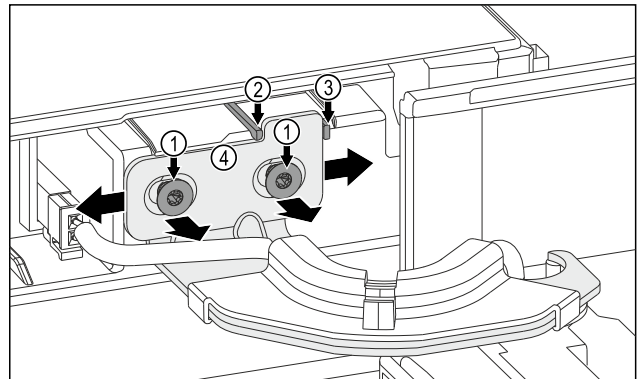

Fig. 10
- ▶ Loosen both screws Fig. 10 (1).
- ▶ Slide the door to the right: Remove the safety knob Fig. 10 (2).
- ▶ Slide the door to the left: Remove the safety knob Fig. 10 (3).
- ▶ The door's end position is reached: Tighten both screws Fig. 10 (1).